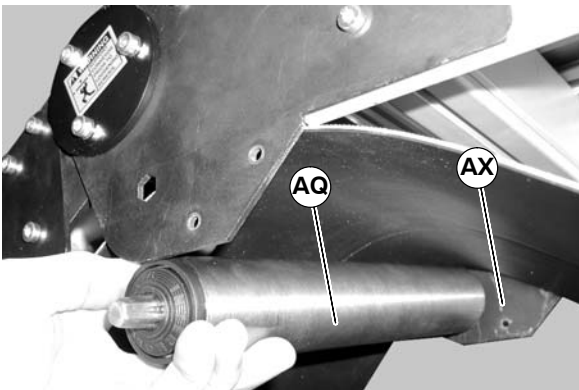

Figure 31
5. Install spring loaded return pulley (AQ of Figure 31) into knuckle plate (AX) into knuckle plate (AX).